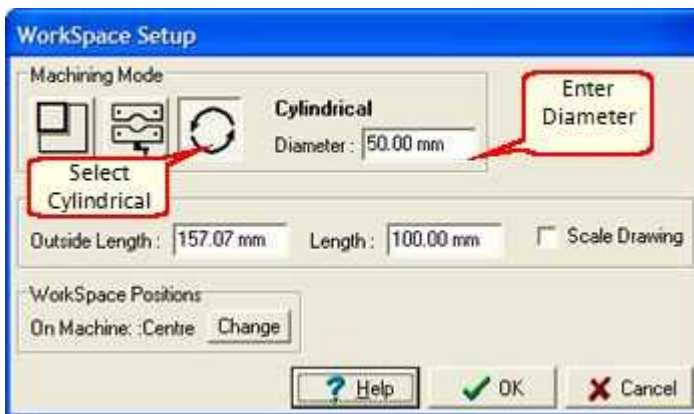

Figure 2
- 3 Now enter the diameter of your rotary work piece by Clicking "Tools", "Workspace", Click On the cylindrical icon then enter the diameter Click "OK"., see Figure 2.